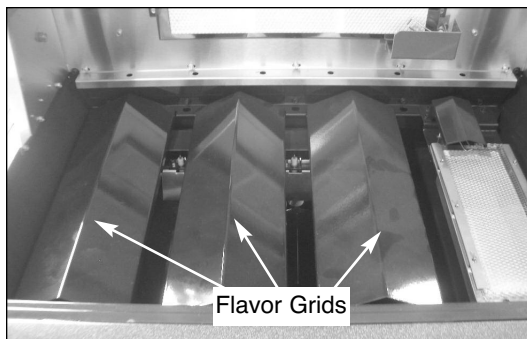

Fig 3
3. Remove cooking grates and flavor grids. (See Fig. 3)
34. Reinstall the flavor grids. (See Fig. 3 on page 2)